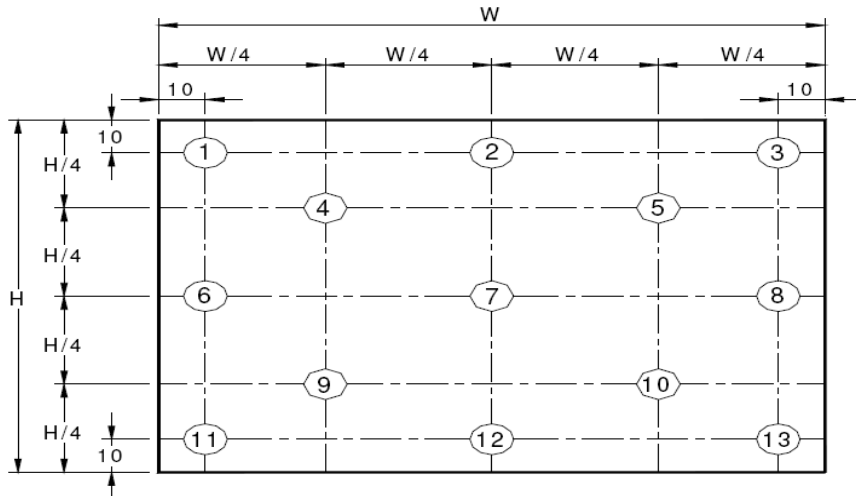

Figure 9. Uniformity Measurement Locations (13 points)
- The White luminance uniformity on LCD surface is then expressed as :  $\Delta Y = \text{Minimum Luminance of 5(or 13) points} / \text{Maximum Luminance of 5(or 13) points}$ .(see Figure 8 and Figure 9).
The White luminance uniformity on LCD surface is then expressed as :  $\Delta Y5$  = Minimum Luminance of five points / Maximum Luminance of five points (see Figure 8) ,  $\Delta Y13$  = Minimum Luminance of 13 points /Maximum Luminance of 13 points (see Figure 9).